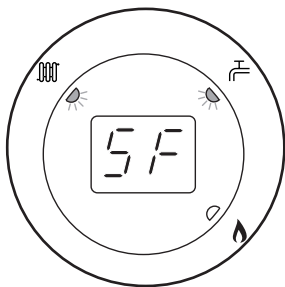

Fig. 54
4. The display will now alternate between 'SF' and the current boiler temperature and both green LEDs will flash (Figs. 54 & 55).